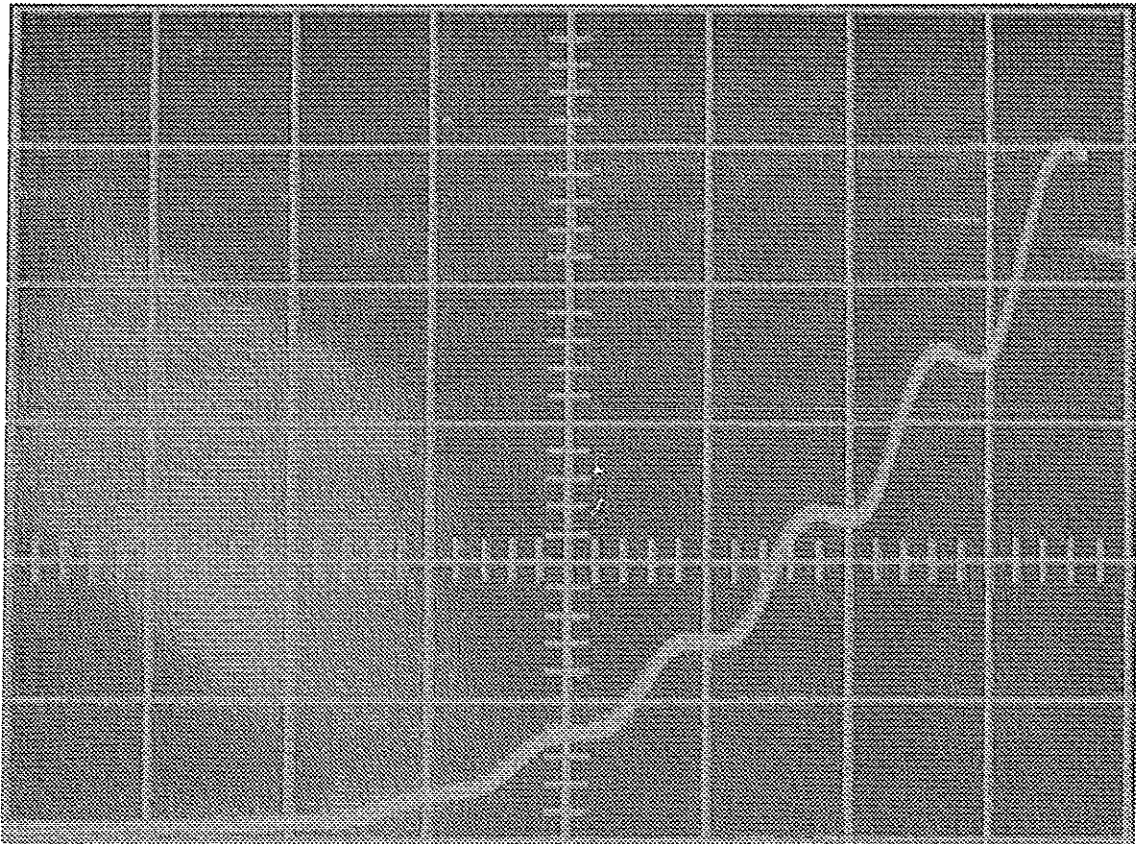

Fig. 4 Franck-Hertz-Experiments with the Hg-tube: Saw tooth measurement displayed by an Oscilloscope
B) Set the following parameters with pushbutton (2) and rotary switch (13).
C) Switch on the oven with pushbutton (4). The red LED above pushbutton (4) continues to flash until the target temperature is reached.
D) Set to "saw tooth" with pushbutton (3). Connect outputs (7) and (8) to the oscilloscope, then select the XY operating mode for the oscilloscope. Start measurement with pushbutton (5). In this "saw tooth" mode, the voltages set for  $U_1$  and  $U_2$  are applied to the Hg-tube with a frequency of 28 Hz. The typical Franck-Hertz curve that results is shown in Fig. 4.